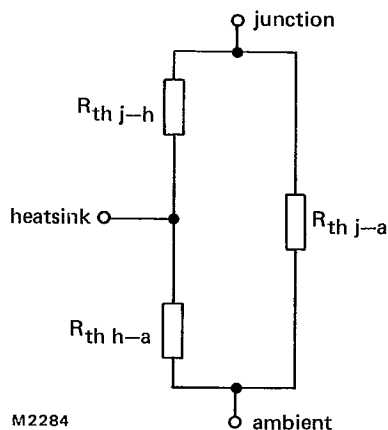

Fig.3.
- a. The various components of junction temperature rise above ambient are illustrated in Fig.3.